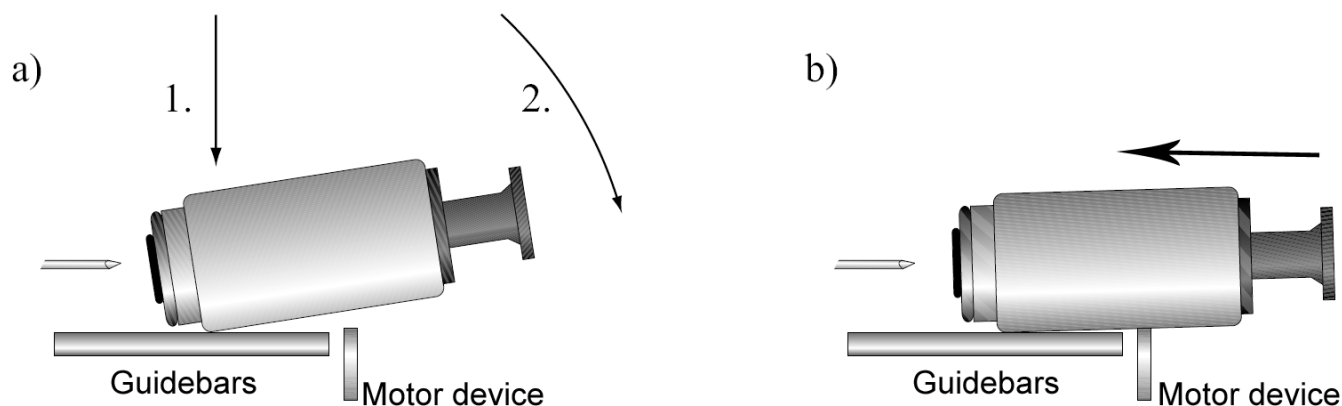

Fig. 8: Sketch of the manual approach of the sample to the tip.
- Put the sample holder down on to the sample holder guide bars first Fig.8 (a) and release it gently on to the approach motor's support (Be careful: the magnet that holds the sample holder in its place can drag the sample off the sample holder, make sure you bring the sample behind it).